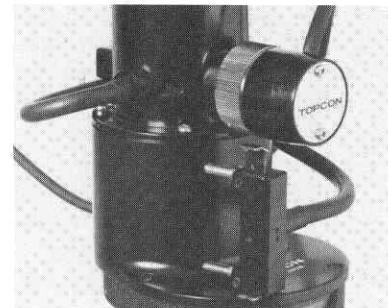

Fig. 82
- (d) The background illuminator may hit the patient's forehead, when the slit illumination system is inclined. In such cases, therefore, detach the background illuminator (refer to Attachment of the Background illuminator), wrap it around the slit illumination system and store the background illuminator on the setting pin for the background illumination ⑧ over the slit mechanism (See Fig. 82)